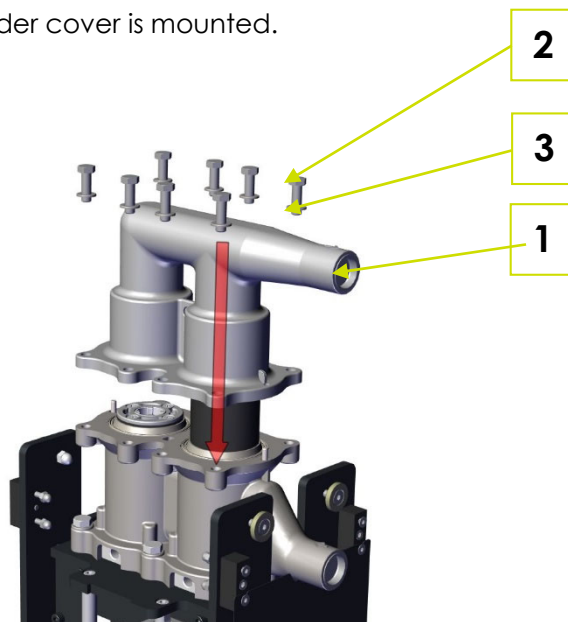
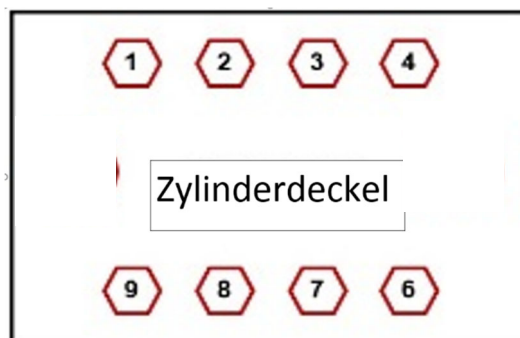

Fig. 5-2: Mounting the cylinder cover
Fig. 5-3: Numbering of the fillister head screws
1. Unscrew all hexagon screws M10x30 (2) with a 17 mm ring spanner.
2. Take off the cylinder cover (1) upward in the direction of the arrow (Fig. 5-2: Dismounting the cylinder cover).
1. Clean the cylinder cover (1) and fit it back on the cylinder block (Fig. 5-2: Mounting the cylinder cover).
2. Hand-tighten all eight M10x30 hexagon screws (2) greased with assembly grease (Renolit Unitemp 2), with the washers A10.5 (3).
3. Tighten all eight hexagon screws M10x30 (2) to a torque of 40 Nm in the sequence 2-7-3-8-1-6-9-4 (Fig. 5-3: Numbering of the fillister head screws).